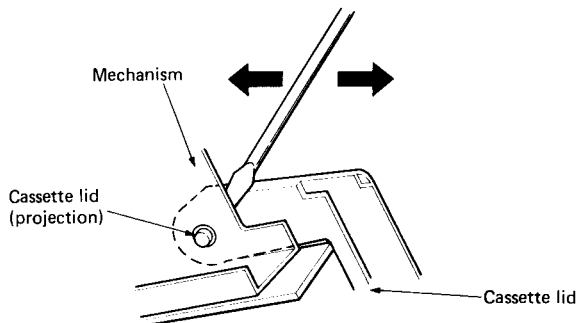

Fig. 3
- 3) Insert a (-) screwdriver between the cassette lid and the mechanism chassis, press it in the direction of the arrow to remove the projection of the cassette lid. (Fig. 3). Then, the cassette lid can be removed.